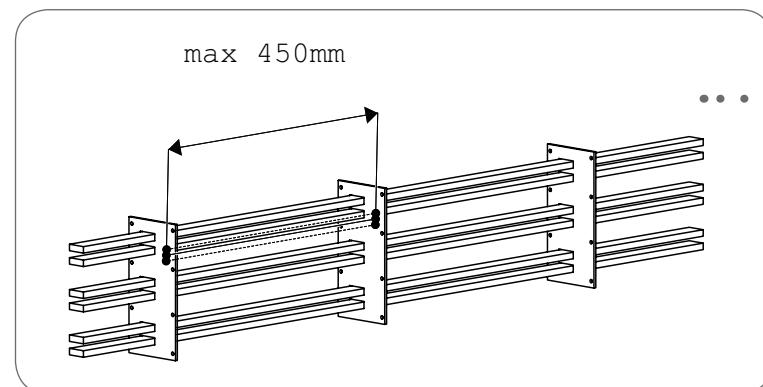

Fig. 4.1. b) Assembling an intermediate support insulator structure using Kute busbar insulators.
With fields more than 450 mm in width intermediate insulators shall be used so that the distance between busbar insulators never exceeds 450 mm, Fig. 4.1. The distance between insulators on vertical busbar systems may not exceed 450 mm, either. It is advisable to use, for instance, an intermediate rod (1) in an intermediate support insulator structure.
Fig. 4.1. a) Assembling an intermediate support insulator structure using Kutet1 support insulators. The distance between support insulators may not exceed 450 mm.